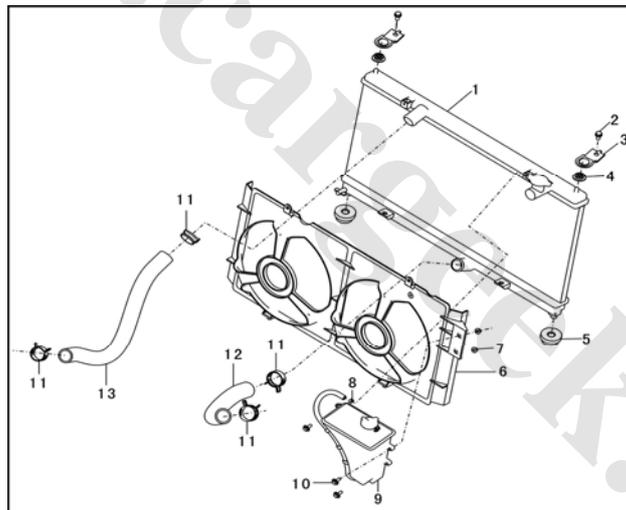

Fig. 2-81
III. On-vehicle Maintenance as Shown in Fig. 2-81.
(1) Discharge and filling of coolant (refer to related details in this chapter).
(2) Removal and installation of engine cover (refer to related details in this chapter).
(3) Removal and installation of lower housing plate.
(4) Removal and installation of battery and the bracket. To disassemble according to Fig. 2-81.